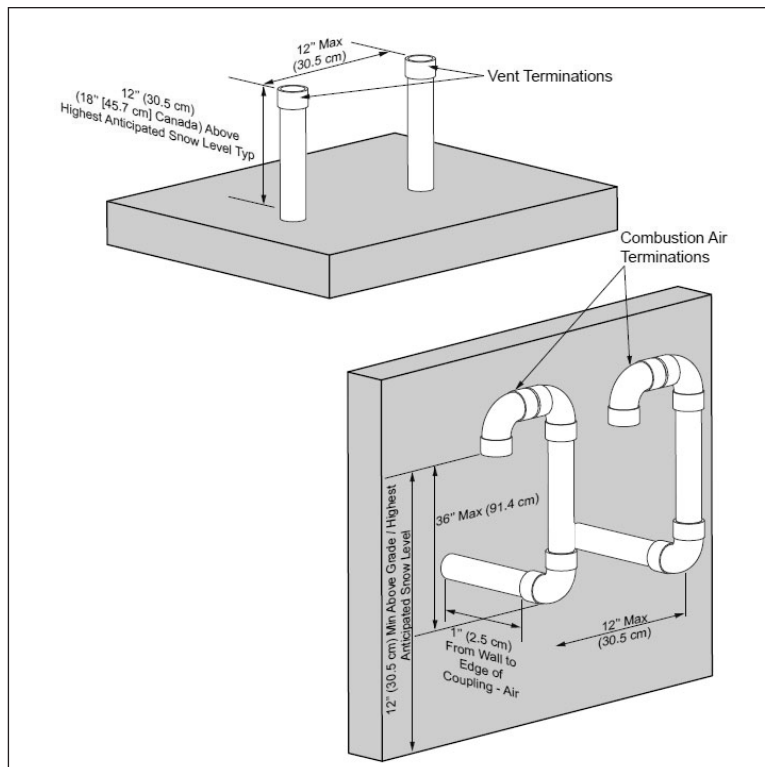

Fig. 13 - Direct Vent - Vertical Vent and Sidewall Combustion Air Terminations of Multiple GALLANT Boilers
2. Each vent and combustion air termination must be a minimum 12 in. [30.5 cm] from the adjacent termination for installations in the U.S. as shown in *Fig. 13*. For installations in Canada, provide clearances as required by CAN/CSA B149.1.